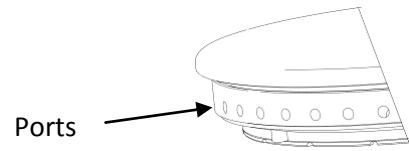

Figure 8
- Thoroughly clean with soap and water. Ensure all burner ports are clean and free from food or cleaning material debris. (Fig 8)
Stubborn debris lodged in ports (See Figure 8) can be removed using a non-metallic implement (ie. cocktail stick). The slots in base should be freed of debris using a soft brush. Dry burner with a lint-free cloth and blow through ports to ensure there is no blockage